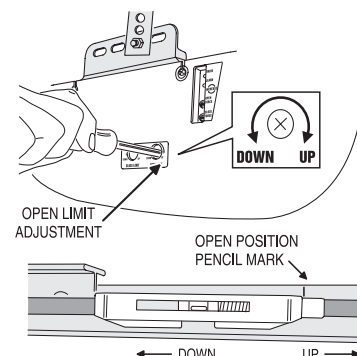

Figure 3A Adjusting the open limit
- Adjust the open limit (**Figure 3A**).